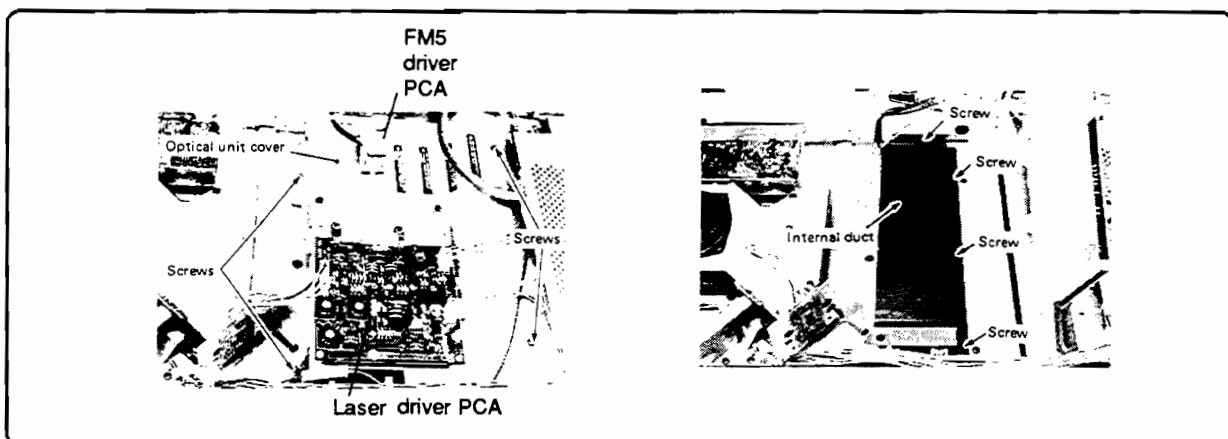

Figure 6-95. Optical Unit Cover and Internal Duct
5. Remove the four screws securing the Optical Unit Cover (see Figure 6-95). Lift the rear of the cover first, while holding all cables out of the way. **Be careful not to damage the beam detect fiber-optic cable.**